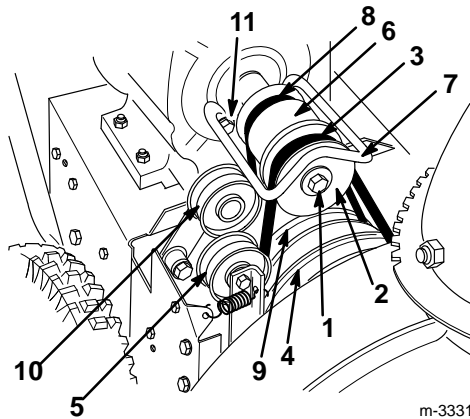

Figure 24
5. Remove the two screws, washers, and lock washers that secure the belt guide (Fig. 24).
6. Remove the engine crankshaft screw, lock washer, and washer (Fig. 24).
7. Separate and remove the engine pulley sheave (Fig. 24).
9. Remove the center engine pulley (Fig. 24).
10. Remove the traction belt from the traction pulley and engine crankshaft (Fig. 24).
11. Pull the traction idler pulley outward and install the new traction belt (Fig. 24).
13. Pull the idler pulley outward and loop the auger/impeller drive belt in the front of the engine pulley, ensuring that the belt is on the inside of the idler pulley and belt guide (Fig. 24).
8. Remove the auger/impeller drive belt from the engine pulley and large auger/impeller pulley (Fig. 24).
9. Pull the idler pulley outward and install a new belt around the large auger/impeller pulley (Fig. 24).
10. Loop the belt in the front of the engine pulley, ensuring that the belt is on the inside of the idler pulley and belt guide (Fig. 24).